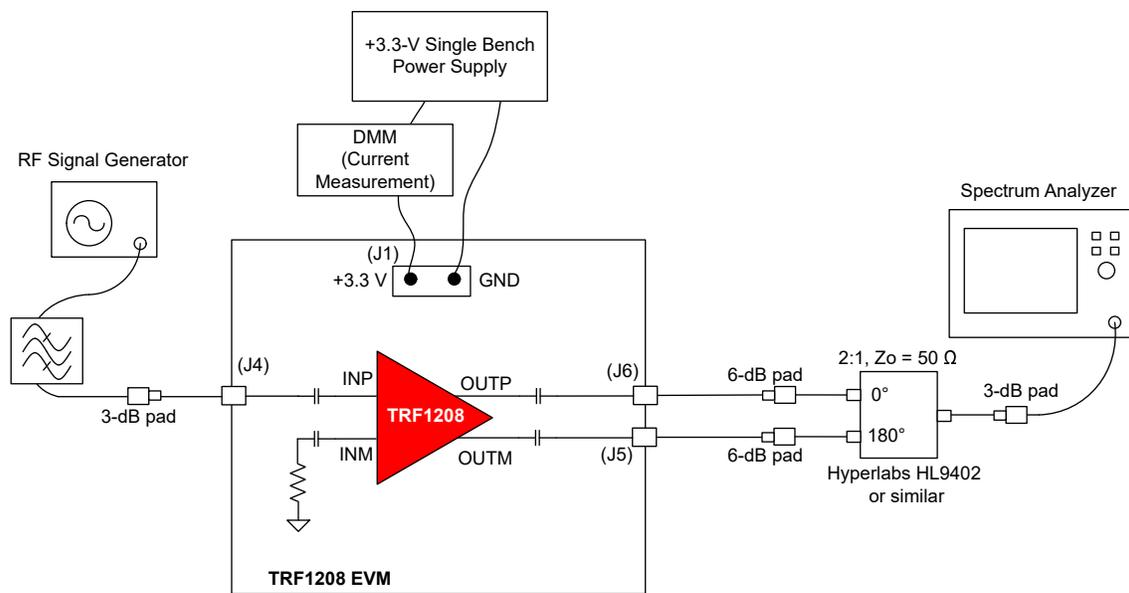

Figure 1-1. Single Tone Setup for Gain and Output P1dB
This section provides general usage information for the TRF1208 EVM. See Figure 1-1 for a general single tone setup diagram as a reference point for the following instructions (some components, such as supply bypass capacitors, are omitted for clarity):
When measuring single tone distortion, use an RF band pass filter as shown in Figure 1-1.
- e. When connecting to a spectrum analyzer, the differential signal out of the EVM must be converted to a single-ended signal using an external passive balun as shown in Figure 1-1.